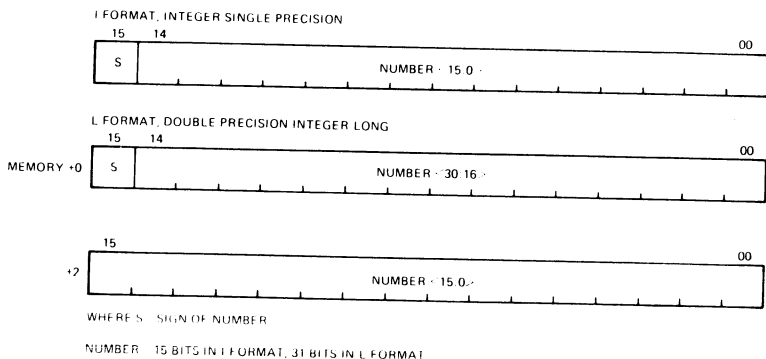

Figure 5-4 2's Complement Format
The floating point option provides for conversion of floating point to integer format and vice versa. The processor recognizes single-precision integer (I) and double-precision integer long (L) numbers, which are stored in standard 2's complement form. The 2's complement format is illustrated in Figure 5-4.